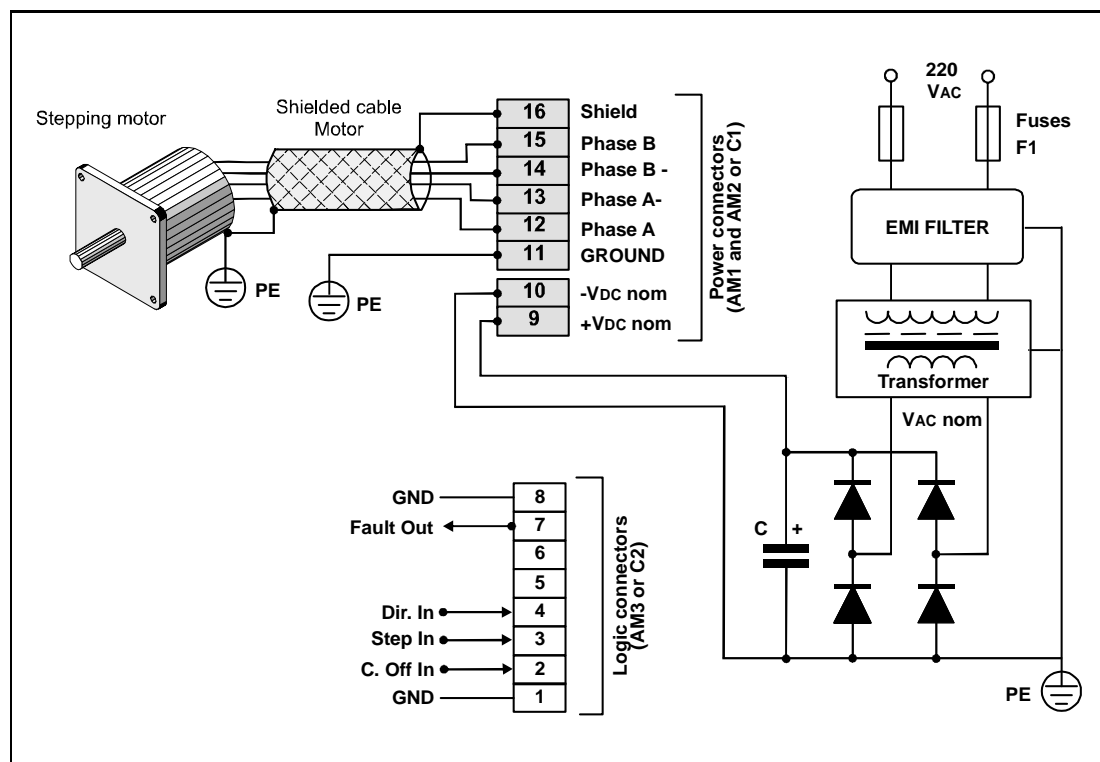
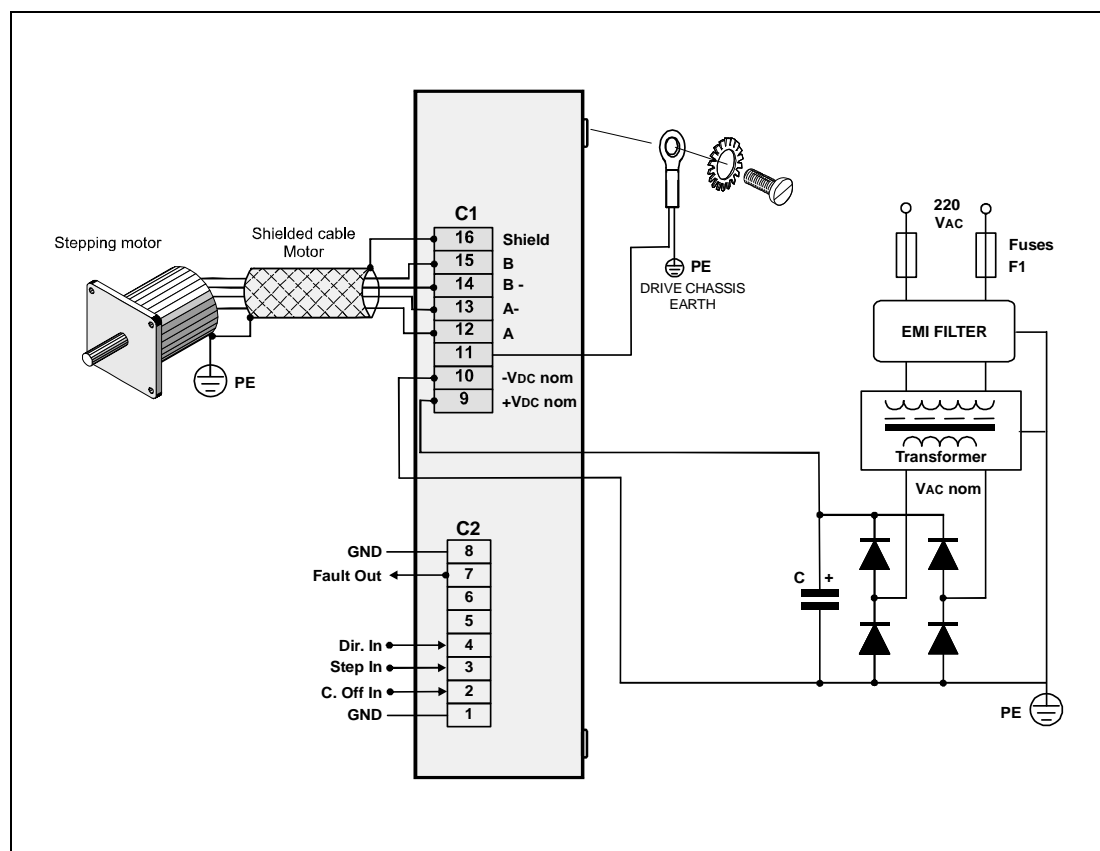

Fig. 2a - Drive external connection scheme for A-CSD 02, A-CSD 02.V, A-CSD 04, A-CSD 04.V
Fig. 2b - Drive external connection scheme for A-CSD 92 and A-CSD 94
- Connection made to Protective Earth terminal (PE), shown in Fig.2a e Fig. 2b, must be short and have the lowest possible inductance.
It is possible to use a switching power supply instead of a traditional power supply indicated in Fig. 2a and Fig. 2b, provided that you have a capacitor of at least 1000 µF on the output line of power supply. This capacitor should be located at a distance not greater than 1 - 2 meter from Vdc input of the drive. The purposes of the capacitor are: